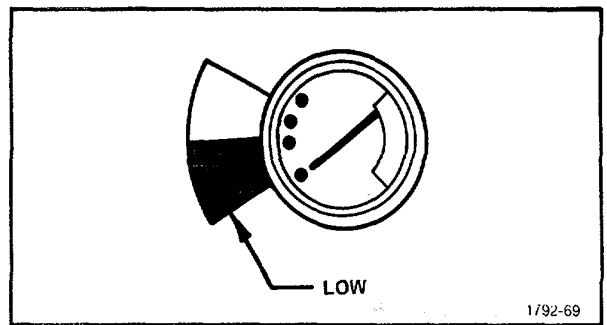

Figure 5-17. Application of sealant to FOCUS and INTENSITY controls.
**17. Install the FOCUS and INTENSITY controls (see Fig. 5-17)**